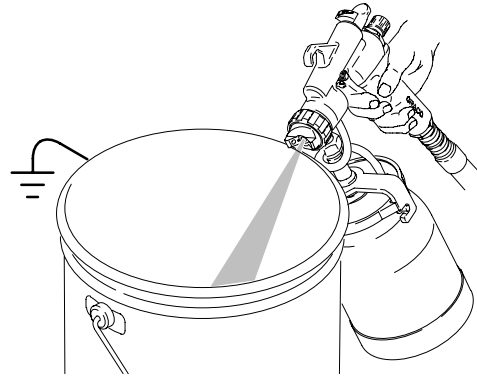

Fig. 22
3. Turn the pattern selection knob (A) to RND to create a round pattern. Turn air control valve (B) half open to reduce solvent mist.
6. Point gun down into and ground against container and flush until solvent runs clean. See Fig. 22.